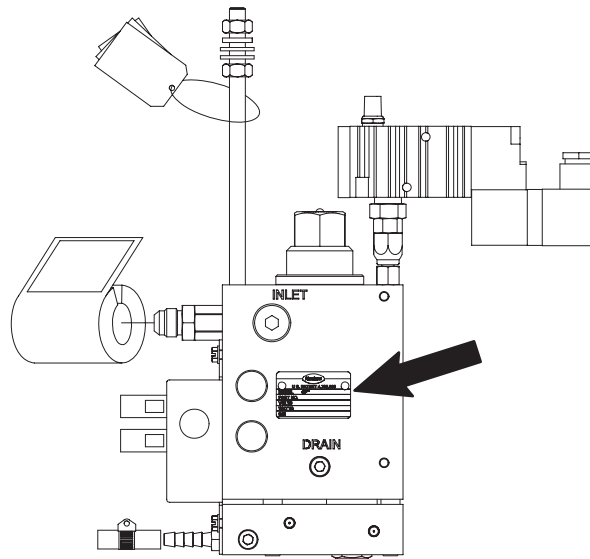

Figure 2-7 Typical location of the applicator identification plate
- Obtain the applicator configuration code from the MODEL portion of the applicator identification plate. The identification plate is usually located on the side of the applicator, as shown in Figure 2-7. Compare the applicator configuration code to Figure 2-8 and Table 2-1.